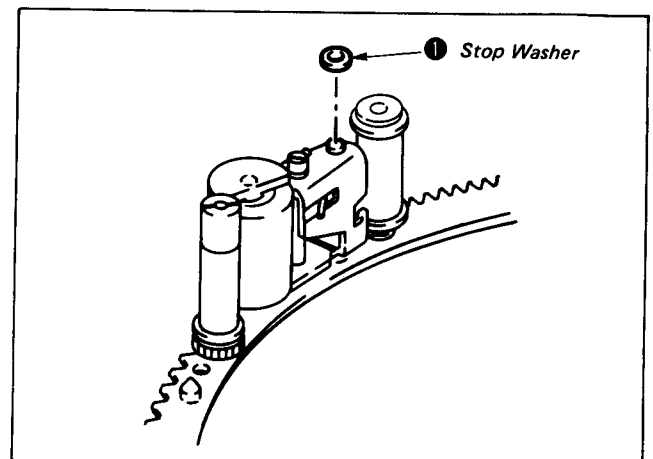

Fig. 8-26.
- 5) Remount the stop washer ①. (See Fig. 8-26.)